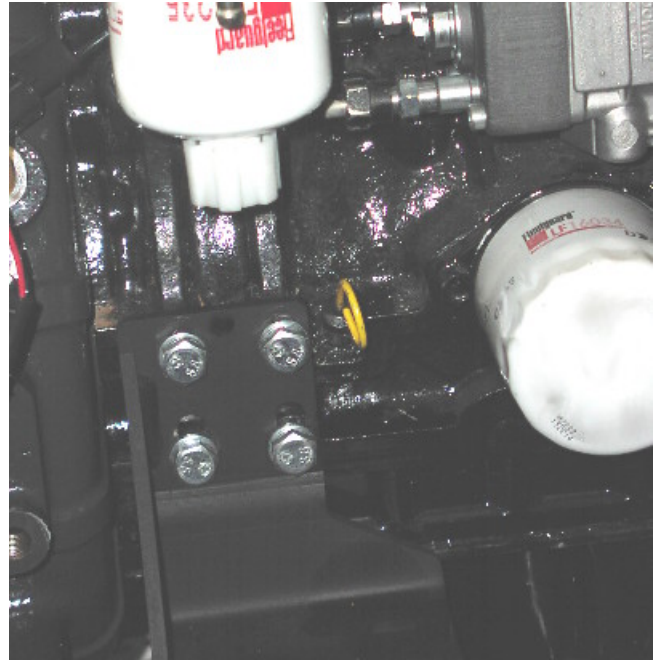

Figure 4 – Bracket mounted. Notice slotted holes for adjustment. Slide bracket up, towards fuel filter, before tightening bolts.
Notice in Figure 4 that the mounting holes on the bracket are slotted. Once all bolts are in, slide the bracket up, vertically, so that the bottom bolts are seated at the bottom of their respective slots and then tighten bolts (2) to 33 ft. lb.